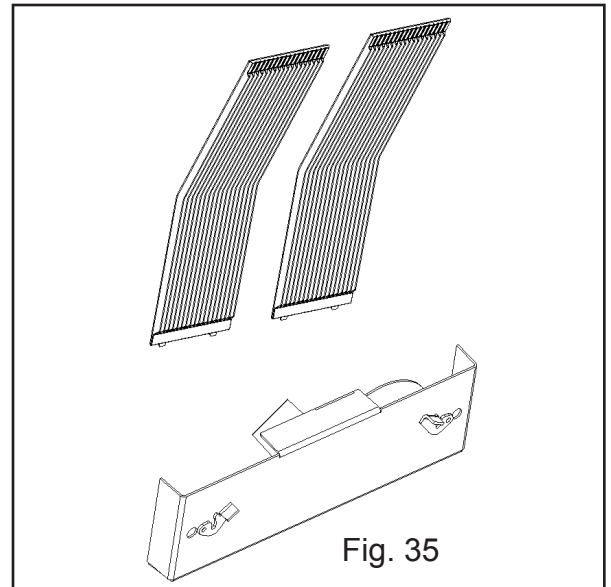

Fig. 35
1. Remove the two heat exchanger covers. See Fig. 35. These covers are made of cast iron and are held into place with a swing latch in the upper right and left corners. See Fig 36. Swing the latch upward far enough to release the top edge of the heat exchanger cover. Tilt the cover forward approximately 2" and lift it upward about 1" to release the bottom edge. The cover can now be taken completely out through the upper door opening. Repeat the process with the second heat exchanger cover.
2. Remove the combustion intake assembly. See Fig. 35. The combustion intake assembly is held into place with two swing latches. See Fig. 37. Swing each latch until it hangs down away from the retainer stud. Now the assembly can be taken out by tilting the right side outward first through the lower door opening.